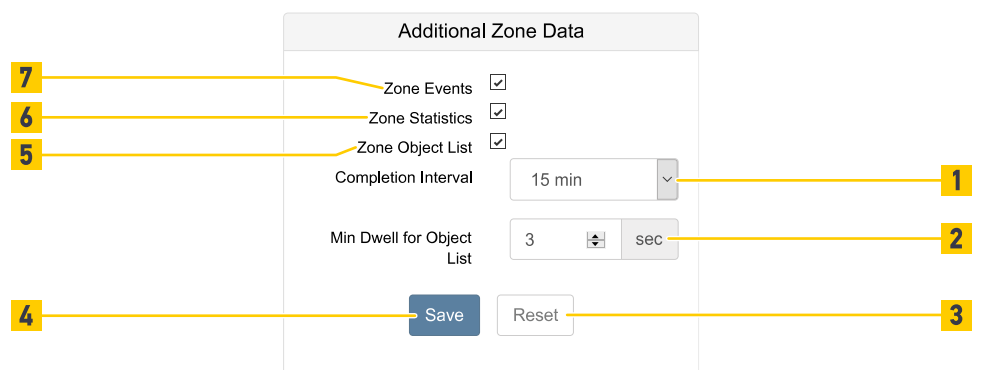

Fig. 106: Zone Statistics
- To activate the logging of events entering or leaving a zone, tick the Zone Events checkbox (Fig. 106 /7).
- To activate the generation of the statistical values, tick the Zone Statistics checkbox (Fig. 106 /6).
- To change the interval during which the statistics are collected, select a Completion Interval (Fig. 106 /1) from the drop-down list.
- To activate the generation of object lists, tick the Zone Object List checkbox (Fig. 106 /5).
- Each object needs a minimum time in the zone to be placed on the object list. To change this time set the Min Dwell for Object List (Fig. 106 /2) in seconds
- To go back to the last saved settings click the Reset button (Fig. 106 /3).
- To save all the settings in the device click the Save button (Fig. 106 /4).